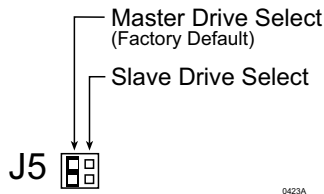

Figure 8: Master/Slave Configuration Jumper J5
3. Select the Master/Slave configuration on the rear of the receiving frame by placing a jumper on the appropriate (J5) pins (Figure 8). Remove the jumper if you wish to use the Unit ID Select switch on the receiving frame to configure the Master/Slave drive selection. Refer to Table 1 for further information.